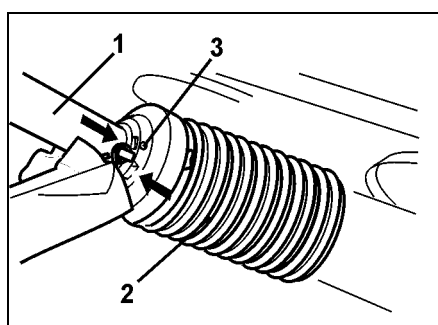

Fig. 38
8. Push on guard cone (Fig. 38/1) and twist guard funnel (Fig. 38/2) into fitting position
9. Insert locking bolt (Fig. 38/3).